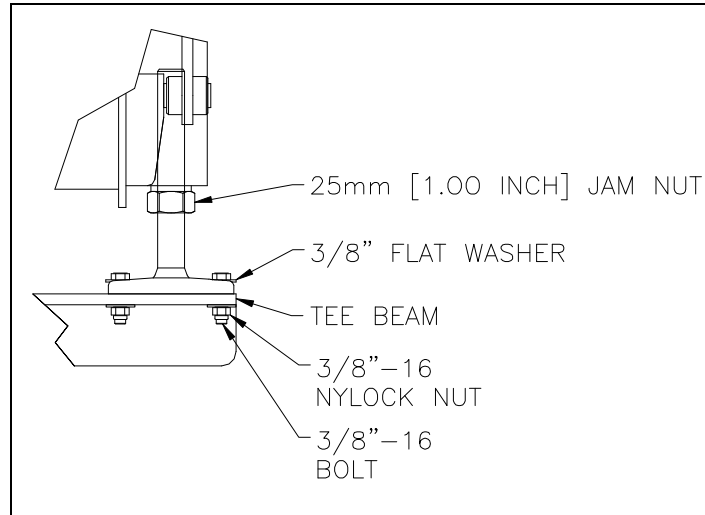

Figure 3-4 – Articulating Foot Hardware
- Use 3/8-inch [10 mm] hardware to bolt the articulating feet of the FastBack® Model 260E-G2 to the deck support structure. Figure 3-4 shows a typical T-Pedestal installation.